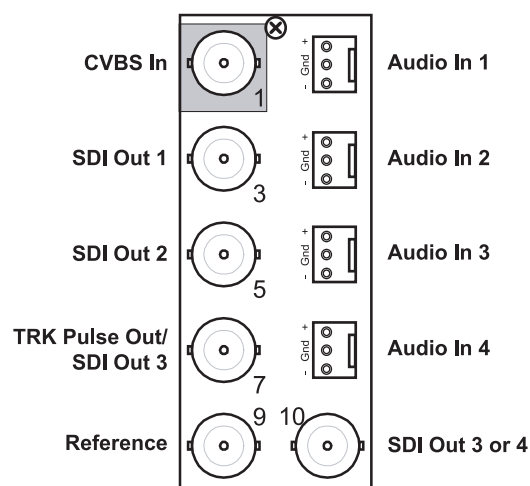

Figure 2.3 Cable Connections for the **R1C-8732** and **R2C-8732** Rear Modules
- **R1C-8732** Rear Module — Each card occupies one slot and provides four audio inputs, three SDI outputs, one tracking pulse output, and a reference output. Cable your ADC-8732B-C or ADC-8732B-SC according to **Figure 2.3**.
- **R2C-8732** Full Rear Module — Each card occupies two slots and provides four audio inputs, three SDI outputs, one tracking pulse output, and a reference output. Cable your ADC-8732B-C or ADC-8732B-SC according to **Figure 2.3**.
The R1C-8732 and R2C-8732 Rear Modules provide four audio terminal blocks with removable connectors for Audio In 1, 2, 3, and 4 (refer to **Figure 2.3** for cable designations). Each connector has locations for the positive, negative, and grounded wires of a balanced analog audio cable.